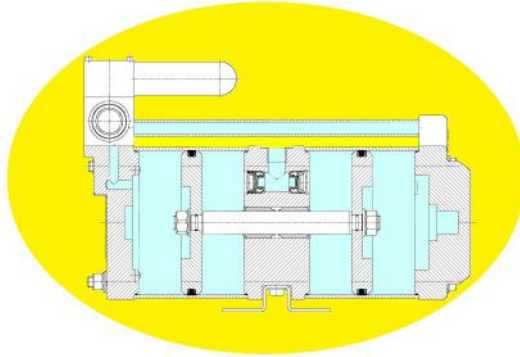

Fig. 10-2 Display of ATEX zones
- 4 Equipment category -/2G: The device boasts multiple equipment categories. Admissible zones can be found in figure 10-2 "Display of ATEX zones".
- 9 Equipment protection level (EPL) -/Gb: The device boasts multiple equipment protection levels. Admissible zones can be found in figure 10-2 "Display of ATEX zones".